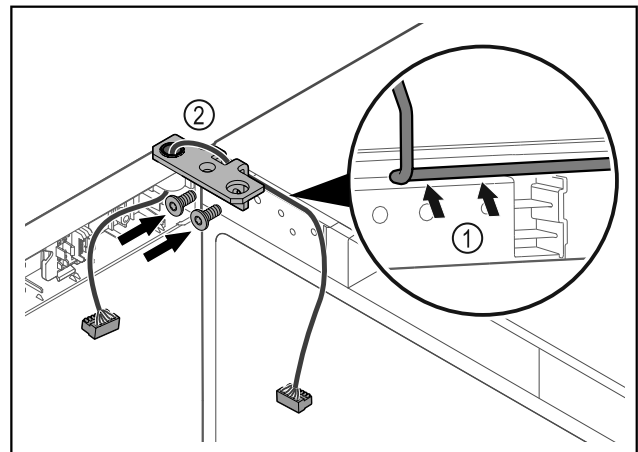

Fig. 42
- Feed the cable through the recess in the hinge and lay it carefully Fig. 42 (1).
- Screw on the hinge Fig. 42 (2).